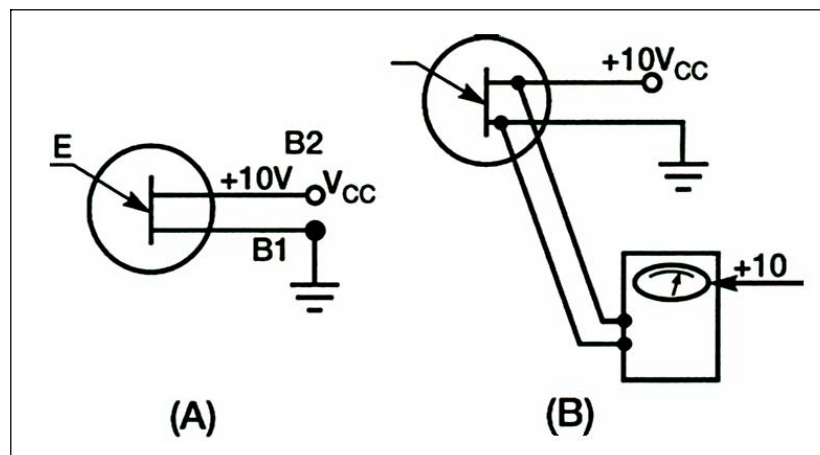
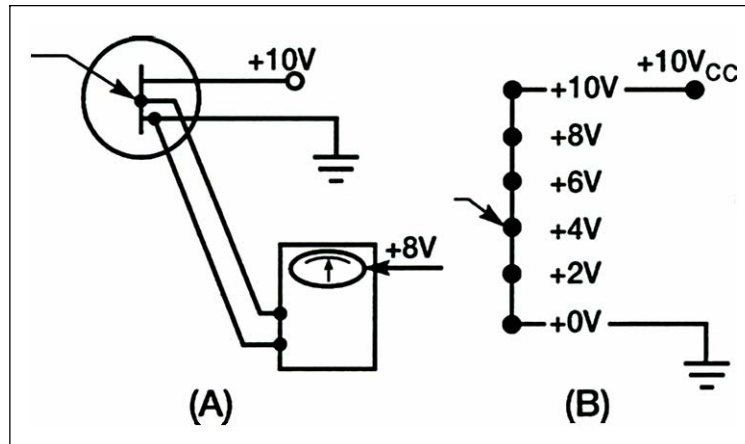

Figure 3-41. UJT Biasing
Figure 3-42. UJT Voltage Gradient
3-68. Figure 3-41, view (A), shows the normal bias arrangement for the UJT. A positive 10 volts is placed on base 2 and a ground on base 1. The area between base 1 and base 2 then acts as a resistor. If a reading were taken between base 1 and base 2, the meter would indicate the full 10 volts (see Figure 3-41, view (B)). Theoretically, if one meter lead were connected to base 1 and the other lead to some point between base 1 and base 2, the meter could read some voltage less than 10 volts (Figure 3-42, view (A) shows this concept). View (B) also shows the voltage levels at different points between the two bases. The sequential rise in voltage is called a voltage gradient.